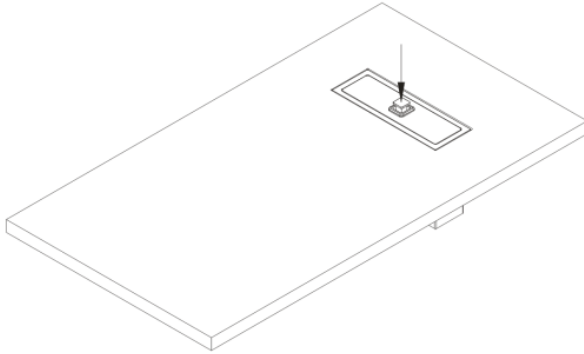

Fig. 9 – Release Pop-up Knob
5.9 Push the Pop-Up Knob down to release it, as shown in Fig. 9.